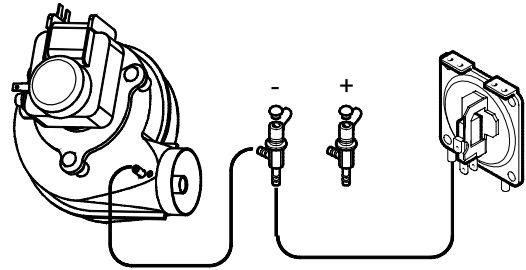

Figure 6
**Warning: To correctly connect the venturi device to the Air pressure switch, refer to Figure 6.**